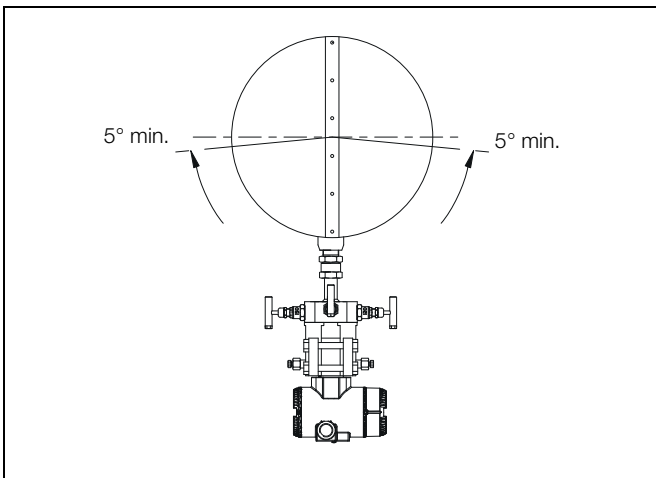

Fig. 2.10 Horizontal Pipe Mounting – Liquids
To ensure the instrument lines contain only the process liquid, install PitoMaster with the instrument connections **below** the centre line of the pipe, at least 5 ° below the horizontal – see Fig. 2.10.
- for horizontal pipe mounting – liquid, refer to Fig. 2.10.